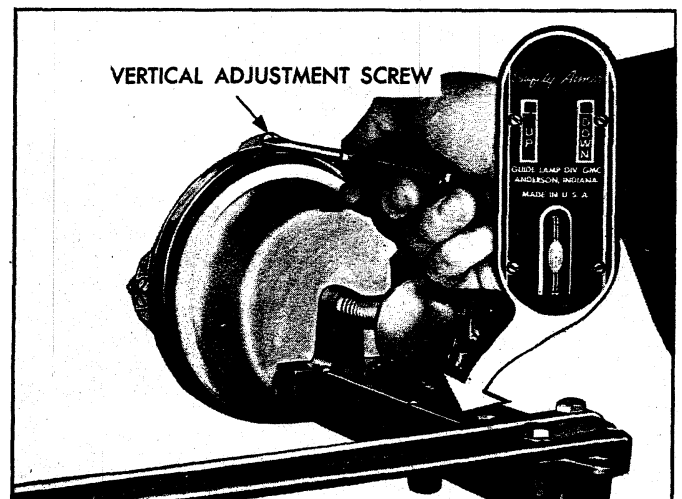

Fig. 5 - Headlamp Vertical Adjustment
8. a. Numeral "2" (fig. 5) should appear in the "down" window of each aimer. If not, loosen knob at underside of aimer arm and slide back and forth until the numeral does appear.
- b. Turn headlamp vertical aim screw (fig. 5) on left-hand unit counter-clockwise until the bubble is at the inner end of the glass tube. Then turn screw clockwise until bubble is centered in tube.